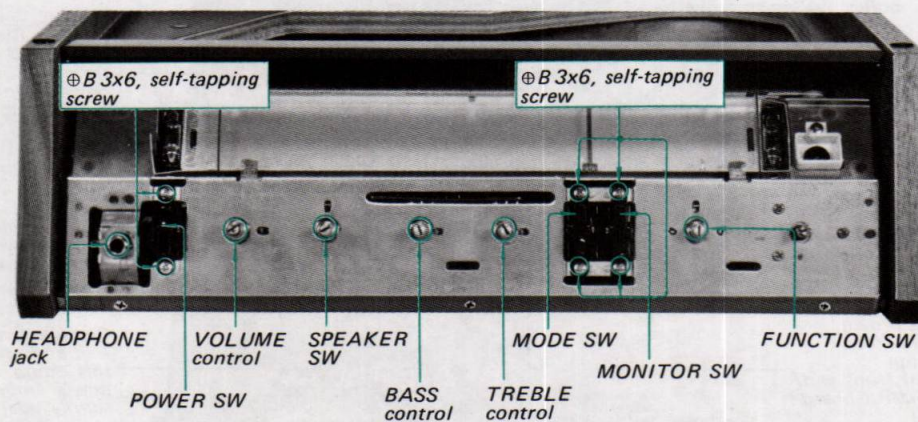

Fig. 2-16. Control and switch replacement
1. Remove the hex nuts that secure the BASS and TREBLE controls to the front subchassis as shown in Fig. 2-16.
1. Remove the hex nut securing it to the front subchassis as shown in Fig. 2-16.
1. Remove the hex nuts that secure them to the front subchassis as shown in Fig. 2-16.
1. Remove the two self-tapping screws securing the switch to the front subchassis as shown in Fig. 2-16.